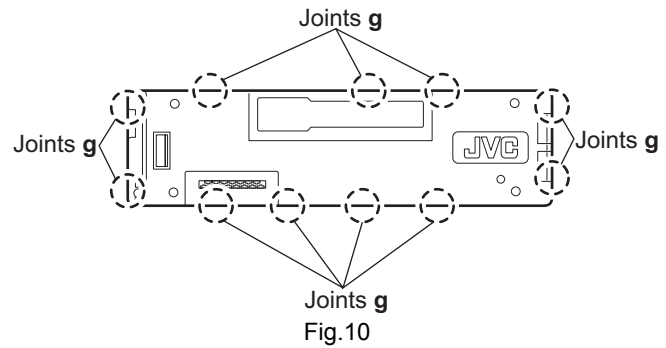

Fig.10
- (2) Release the eleven joints **g**, the front panel assembly and the rear cover become separate. (See Fig.10.)